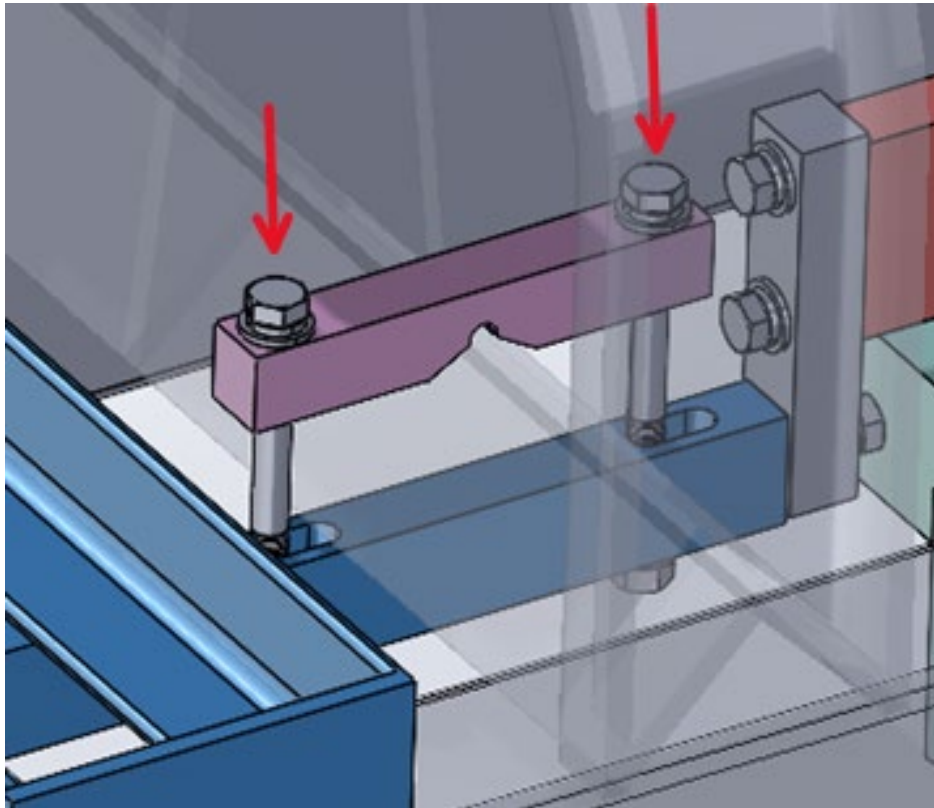

Figure 6: Lock Bolts
6. When in use to measure weight, loosen Idler Mount bolts. See Figure 6 for more details.
7. When in use to measure weight, loosen Idler Mount bolts. See Figure 6 for more details.